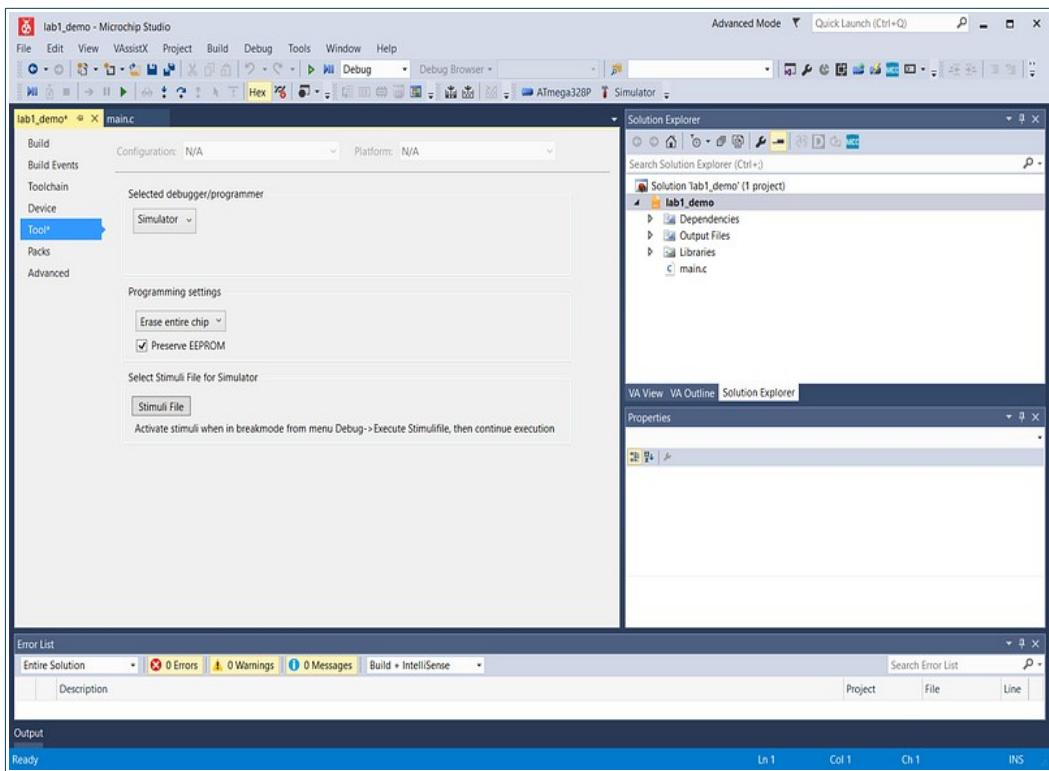

Figure 5: Selecting the built-in simulator for debugging
2.2 Ensure that the built-in simulator is selected as the debugger (see **Figure 5**).